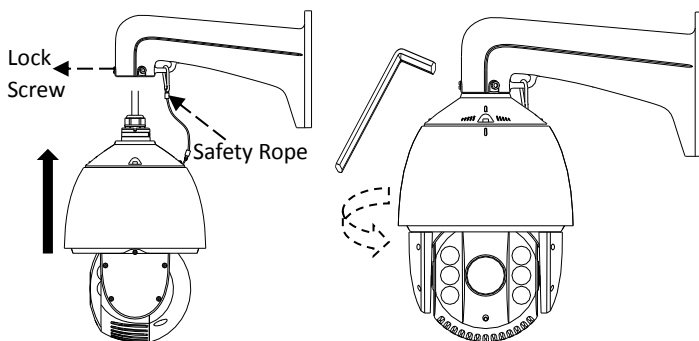

Figure 2-3 Secure the Speed Dome
- 1). Hang the safety rope to the speed dome and then hook to the mount as shown in Figure 2-3.